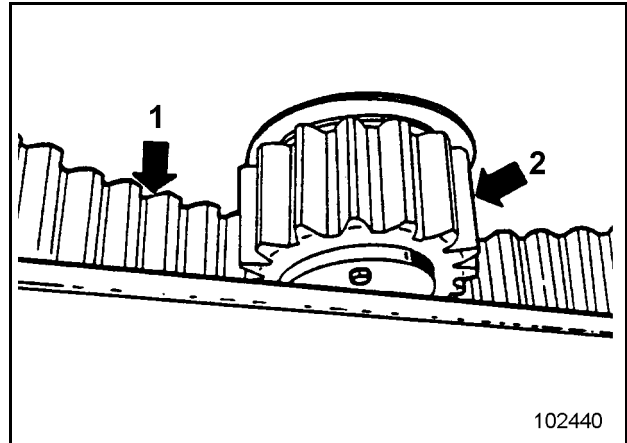
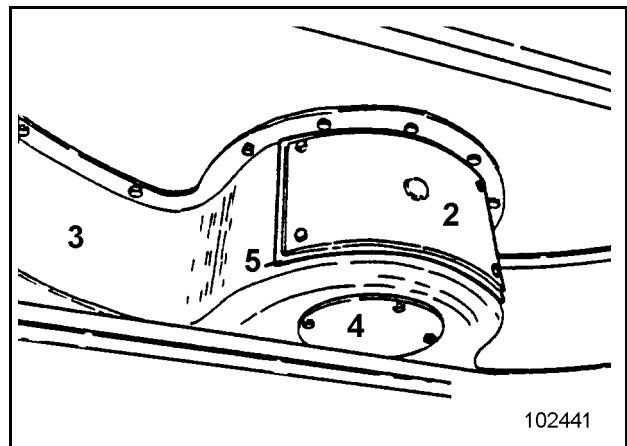

Fig. 3-103:
Fig. 3-104:
The internal gearing (1, Fig. 3-103:) and the pinion (2) are enclosed in a housing (3, Fig. 3-104:). The housing forms a grease-filled trough in which the pinion of the swing mechanism moves.
The housings have a check opening which is closed with a cover (2, Fig. 3-104:). For checking, the cover must be removed.